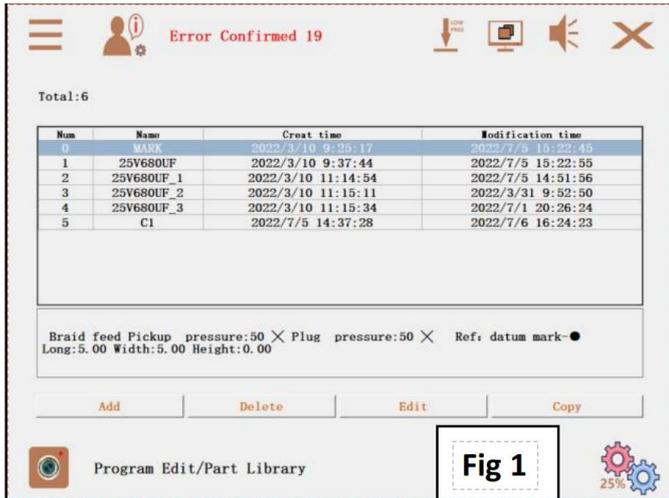

Fig 1
- a.** For example with two panel in PCB , establish two **Mark** data in the parts database (as shown in Figure 1);